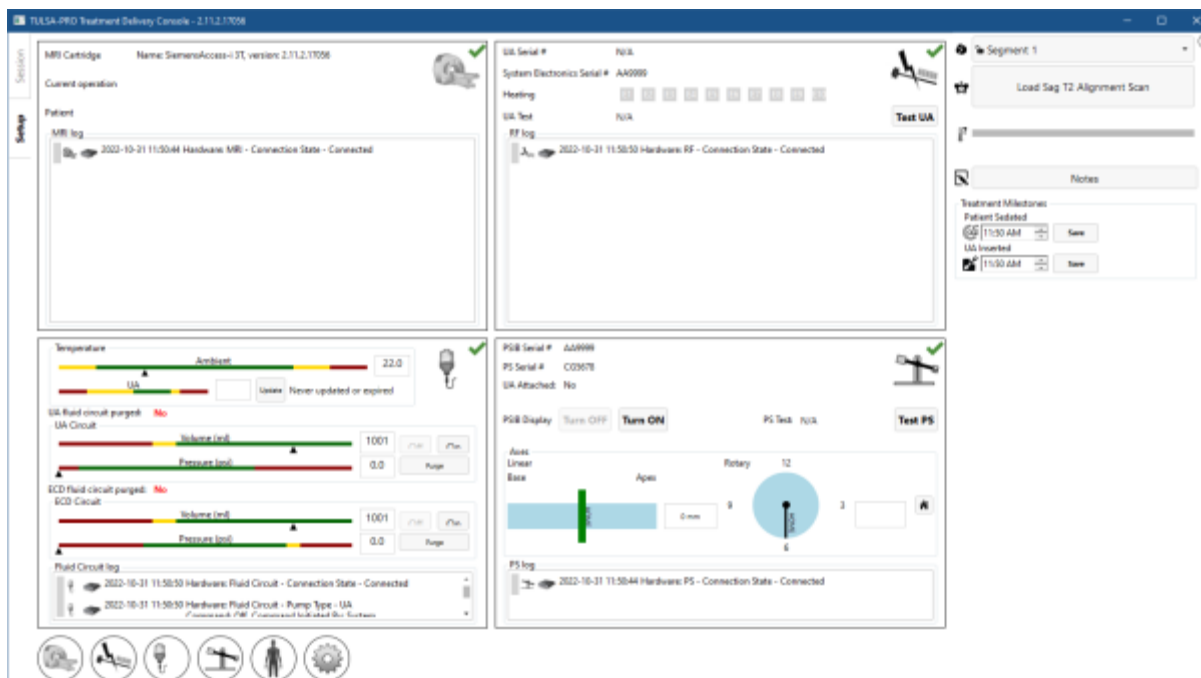

Figure 6: Setup workspace of the TDC software
2. After selecting **New Session**, you will enter the **Setup** Workspace (*Figure 6*) where you can ensure all equipment is functioning properly before proceeding. A green checkmark will appear in the MRI quadrant of the Setup Workspace if the TDC computer and MRI host can communicate with each other, and a patient is currently open with the TULSA-PRO® MRI sequence protocol on the MRI console.